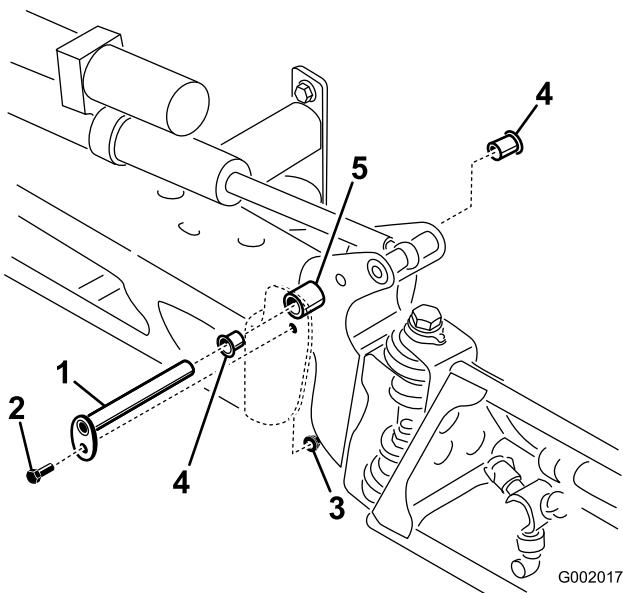

Figure 54
3. With the weight of the boom supported, remove the bolt and nut securing the pivot pin to the boom assembly (Figure 54). Remove the pivot pin.
5. Remove and inspect the nylon bushings from the front and back sides of the pivot bracket (Figure 54). Replace any damaged bushings.
7. Install the boom and pivot bracket assembly into the center frame, aligning the openings (Figure 54).